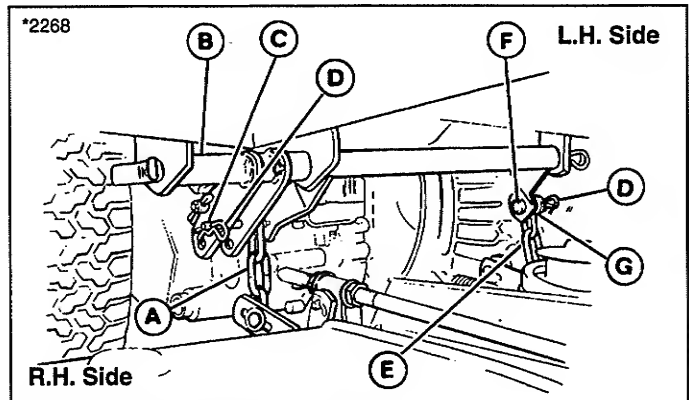

Figure 8. Mower With Electric Lift
Electric Lift. See figure 8. Connect the mower lift chains (A & E) to the tractor lift arm (B) using the clevis pins, washers and safety clips. Install the shorter clevis pin (F, figure 8) on the left side as shown.